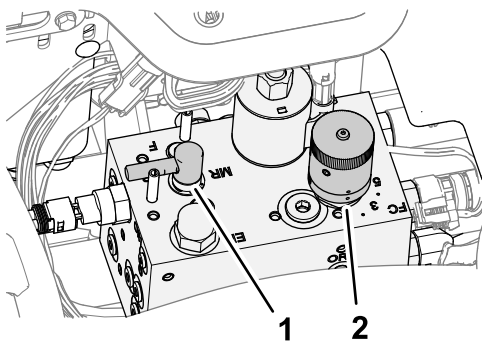

Figure 89
3. Move the backlap lever to the F (mow) position (Figure 89).